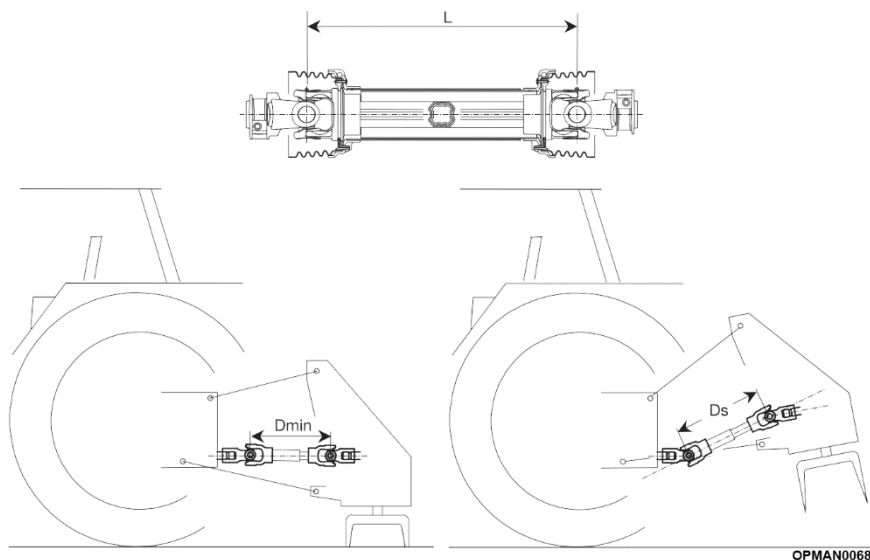

Figure 3.3 –Input Shaft Overlap
In order to determine the correct length of the finished driveline (L), hook the machine to the tractor, leaving the machine on the ground and proceed to install the two uncoupled/unprotected semi-shafts to their respective tractor/machine PTO's; see Figure 3.3. It is important that when fitting the two semi-shafts, the distance between the joints, "Dmin", is less than the original length "L" of the closed removed input shaft. This is so that the input shaft tubes aren't "bottomed". For guidance on fitting input shafts; see Section 4.4.1.
- 3.3.3.1 With the input PTO driveshaft attached, place the tractor and machine on the steepest slope possible, Dmax (see Figure 3.3).
- 3.3.4.6 Check the length of the driveshaft at the minimum and maximum positions of the machine. See Figure 3.3 for guidance on Dmin/Dmax lengths.